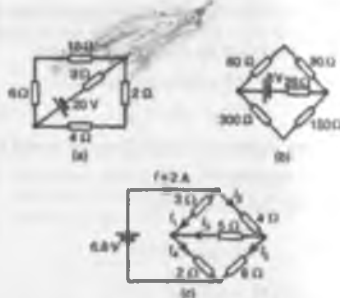

Figure 13.14
- 4 Find the current flowing in the 3Ω resistor for the network shown in Fig. 13.14(a). Find also the p.d. across the 10Ω and 2Ω resistors. [2.715 A, 7.410 V, 3.948 V]
- 5 For the network shown in Fig. 13.14(b) find: (a) the current in the battery, (b) the current in the 300Ω resistor, (c) the current in the 90Ω resistor, and (d) the power dissipated in the 150Ω resistor.
- 6 For the bridge network shown in Fig. 13.14(c), find the currents I_1 to I_5